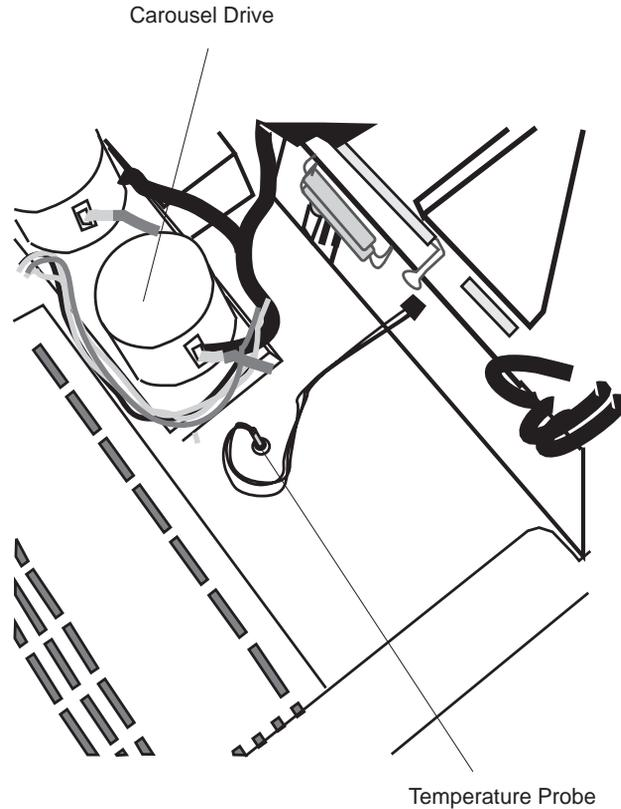

Figure 2-14 Installing the Temperature Probe
6. Push the temperature probe through the grommet located on the floor of the unit behind the carousel drive (Figure 2-14). Push the probe down until it reaches the stop.